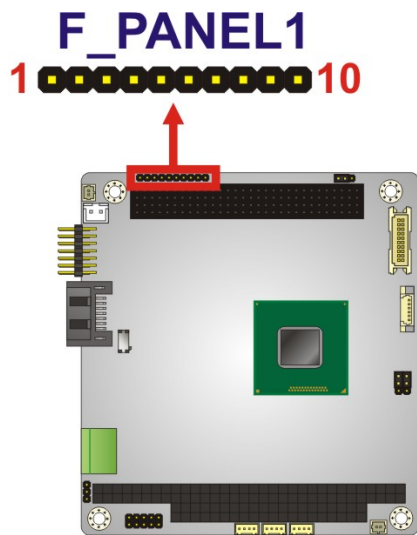

Figure 3-7: Front Panel Connector Location
- CN Location:** See **Figure 3-7**